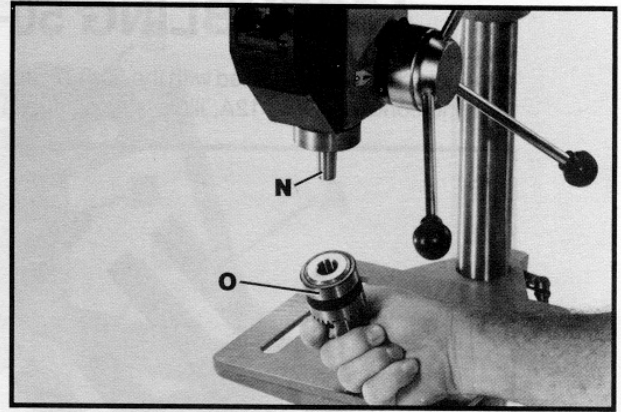

Fig. 9
8. **IMPORTANT:** Make certain the bottom of spindle (N) Fig. 9, and tapered hole in chuck (O) are clean and free of any grease, lacquer or rust preventive coatings. **NOTE:** Household oven cleaner can effectively remove any substance from the spindle and chuck; however, carefully follow the manufacturer's safety rules concerning its use.